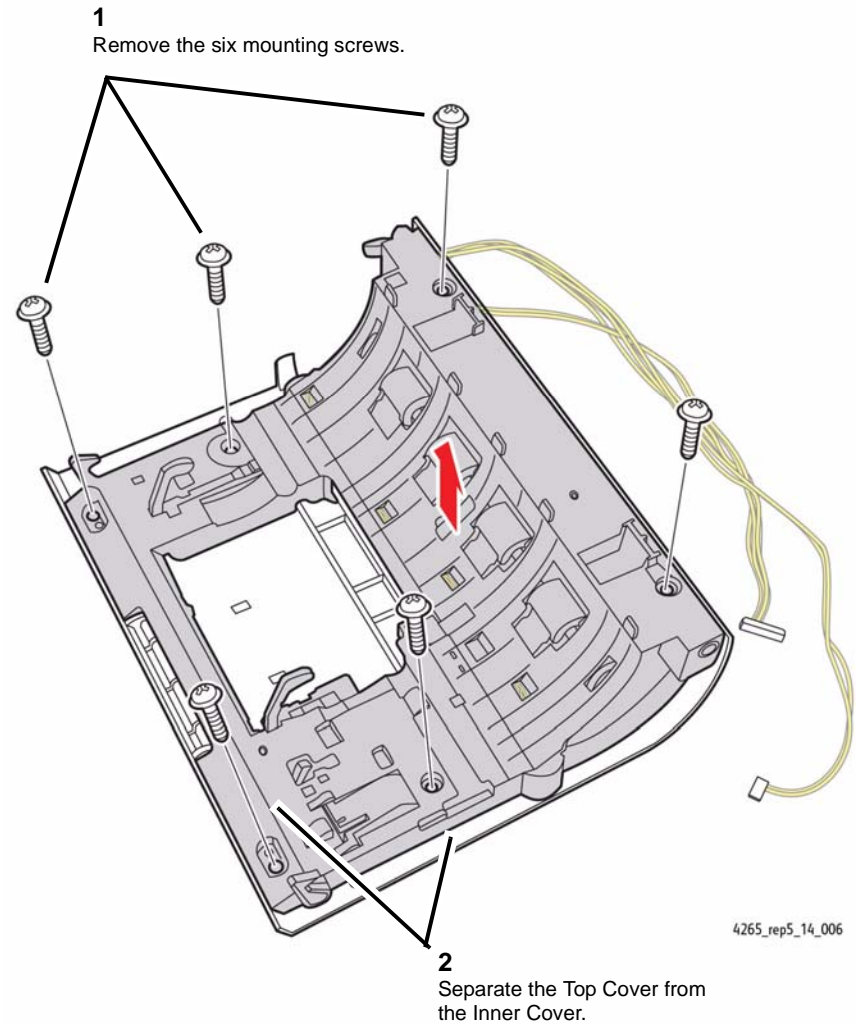

Figure 1 Separating the Top Cover from the Inner Cover
3. Separate the Top Cover from the Inner Cover (Figure 1).